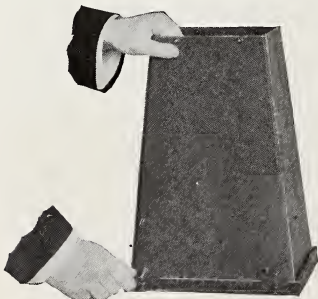

FIG. 3.
2. Carefully fit the wide end of the larger section of cone into grooves in paper holder and push hooks into position, Fig. 3.